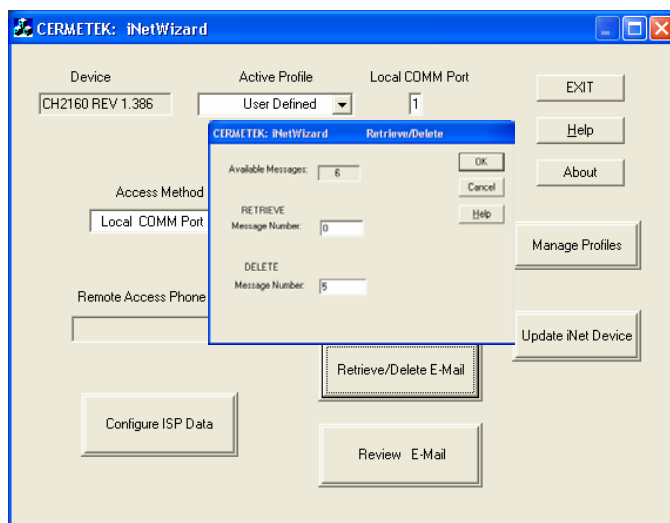

Figure 39. Retrieve Data pop-up dialog box with retrieve email message number specified selected per Example 8.
- Step 3B. Set the retrieve email message number to zero. Highlight the data in the RETRIEVE Message Number window and specify the message number to be retrieved as 0. Do not enter <CR> after the required edits as this will cause iNetWizard® to exit the RETRIEVE/DELETE window after executing the specified change(s). See Figure 39.